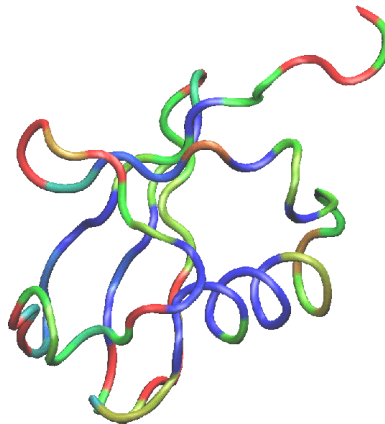

Figure 9: Ubiquitin colored by the average RMSD per residue. Red denotes more mobile residues, and blue denotes residues which moved less during equilibration.
- \* **9** Choose the Graphics → Colors... menu item. Choose the Color Scale tab. In the Method pull-down menu, choose `BGR`. Your figure should now look similar to Fig. 9.